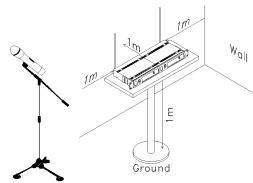

Fig. 8
5. Make sure that the system performs correctly by placing the system away from noise sources. Place the receiver at least one meter above the ground and one meter away from noise sources. Place the microphone at least one meter away from the receiving antenna, as shown in figure 8.